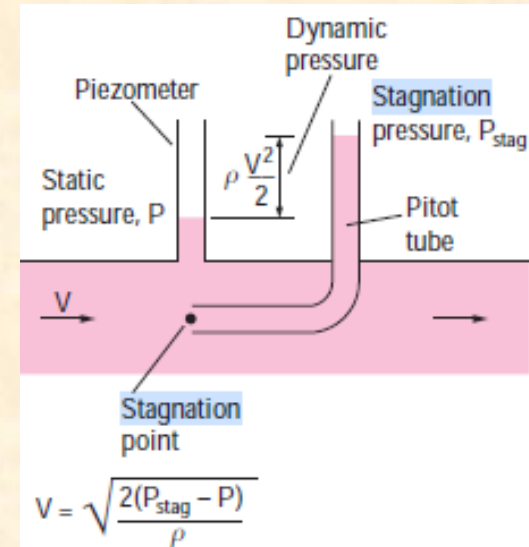

FIGURE 5-27
- The **stagnation pressure** represents the pressure at a point where the fluid is brought to a complete stop isentropically. The static, dynamic, and stagnation pressures are shown in Fig. 5-27. When static and stagnation pressures are measured at a specified location, the fluid velocity at that location can be calculated from the velocity Eq.:
3.8 Flow measurements: (1) Pitot tube